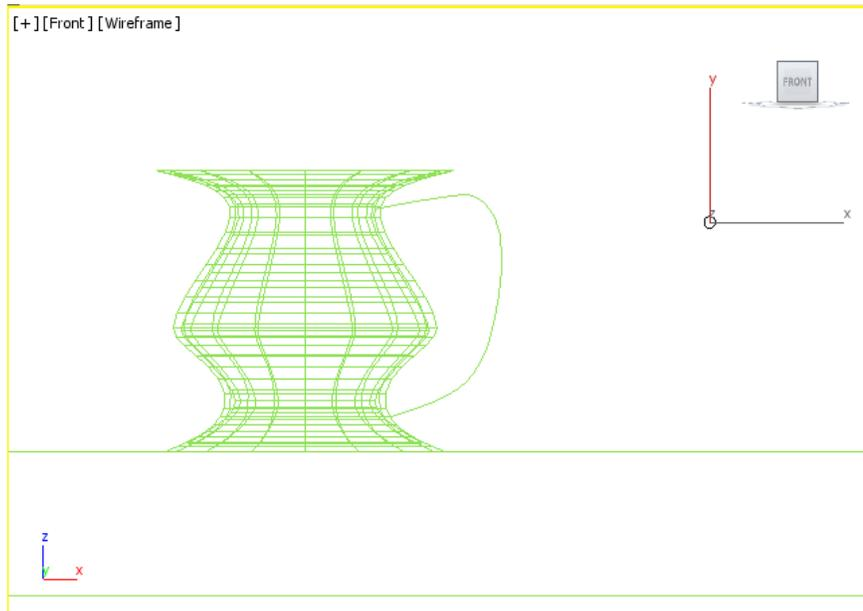

Figure 5-19 The circle created
- Choose **Create > Shapes** in the **Command Panel**. Next, invoke the **Circle** tool. Create a circle anywhere in the viewport, as shown in Figure 5-19. Set the value **0.5** in the **Radius** spinner of the **Parameters** rollout (2 grid points),